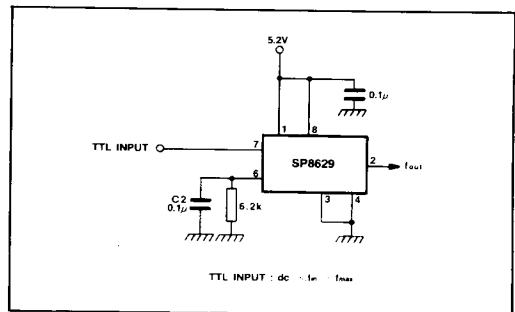

Fig.7 TTL input (DC $< i_{in} < i_{max}$)
4. The input waveform will normally be sinusoidal but below 10MHz correct operation depends on the slow rate of the input signal. A slow rate of $50V/\mu s$ will enable the device to operate down to DC. The device will operate with a TTL input signal as shown in Fig. 7 and is DC coupled to the input.